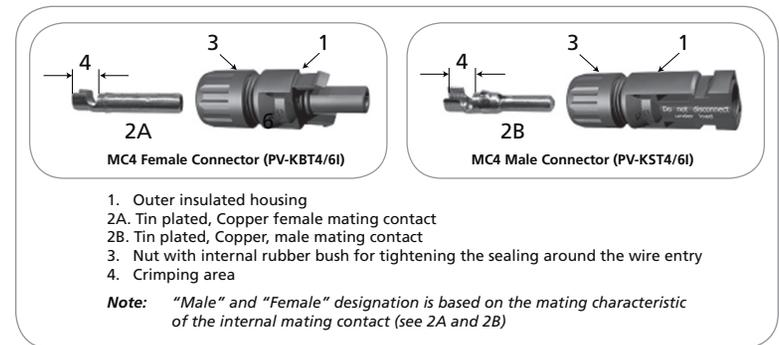

Fig. 1. MC4 Male and Female Connectors
### Installation procedure (See Fig. 1 and Fig. 2)
2. Insert the bare conductor into the crimping area (4 of Fig. 1) of the metallic mating contact and crimp using a special purpose crimping tool. The end may be soldered if the crimping tool is not available. Take care that the solder does not flow beyond the crimp area.
4. Tighten nut (3 of Fig.1) so that the rubber bush is compressed around the wire entry to ensure proper sealing.
### MC4 Multi-Contact Connectors (Fig. 1)
### Construction of MC4 Connectors (See Fig. 1)
The Male and Female MC4 Connectors consist of the following components (See Fig. 1).
- Outer insulated housing with locking arrangement (1 of Fig. 1)
- Tin-plated Copper metallic male & female mating contacts (2A and 2B of Fig. 1). The wire is placed in the crimping area (4 of Fig 1) and crimped with a special crimping tool
- Nut & internal rubber bush (3 of Fig. 1). When the nut is tightened, the internal rubber bush is compressed around the outer jacket of the cable, providing water-tight sealing.